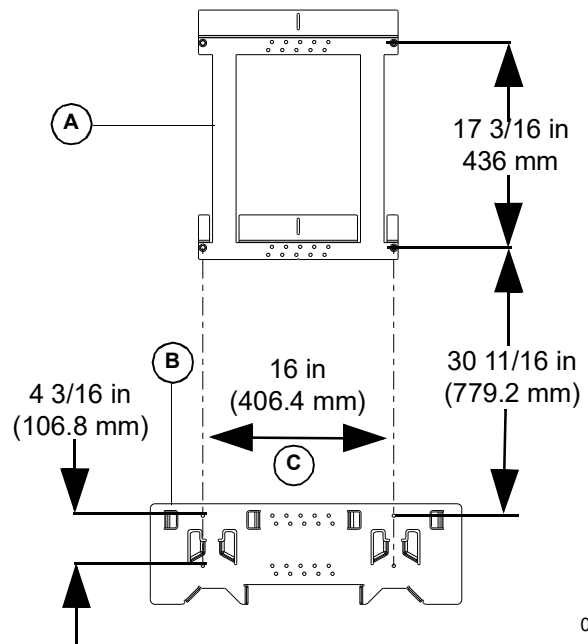

Figure 6. Foot Bracket and Wall Bracket Alignment
- See **Figure 6**. Project a vertical line up from the top mounting fastener in the foot bracket (B).
- Place a mark on the projected line 30 11/16 in (779.2 mm) above the top mounting fastener of the foot bracket (B).
- Insert first fastener in the lower hole of the wall bracket (A) at the mark placed in step 2, leaving it partially loose until bracket is in alignment and plumb.
- Level wall bracket (A) and double check alignment. Double check measurement of 30 11/16 in (779.2 mm) is the same for the other lower mounting fastener in wall bracket (A). Make sure opposite wall bracket (A) fastener is in alignment for 16 in on center studs.
- Double check wall bracket (A) fasteners are in alignment with foot bracket (B) fasteners and wall bracket (A) is still plumb.
- Install a minimum of two fasteners in the top holes of the wall bracket (A).